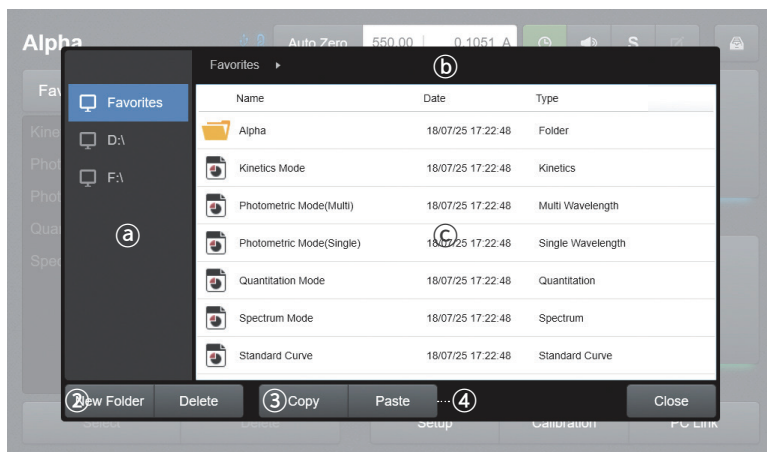

Fig. 8.4 ① Drive list / ② Data in pertaining drive / ③ Current folder location
2. [Fig. 8.4] Select a drive from the ① drive list that includes a file to copy.
3. [Fig. 8.4] Select the previous folder name in ② to return to the previous folder.
4. [Fig. 8.4] Click and select a file to copy in the ③ file list.
5. [Fig. 8.4] Press ④ **Copy** to copy a file.
6. [Fig. 8.4] Select a drive and folder from the ① and ③ list. (Or press ② **New Folder** to create a new folder.)
7. [Fig. 8.4] Press ④ **Paste** to finish pasting the file.